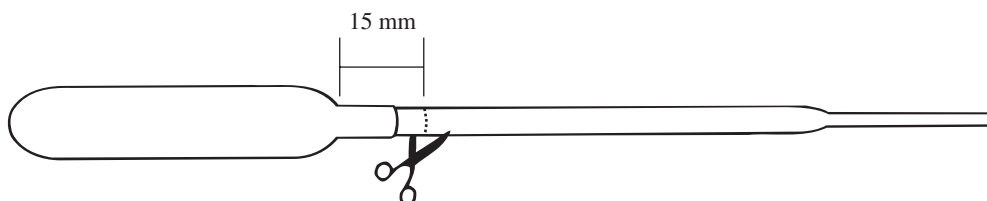

Figure 1. Cutting the Pipet
2. Cut off all but 15 mm of the pipet stem (see Figure 1). Then screw the hex nut securely onto the truncated stem. The hex nut will make its own threads as it goes.